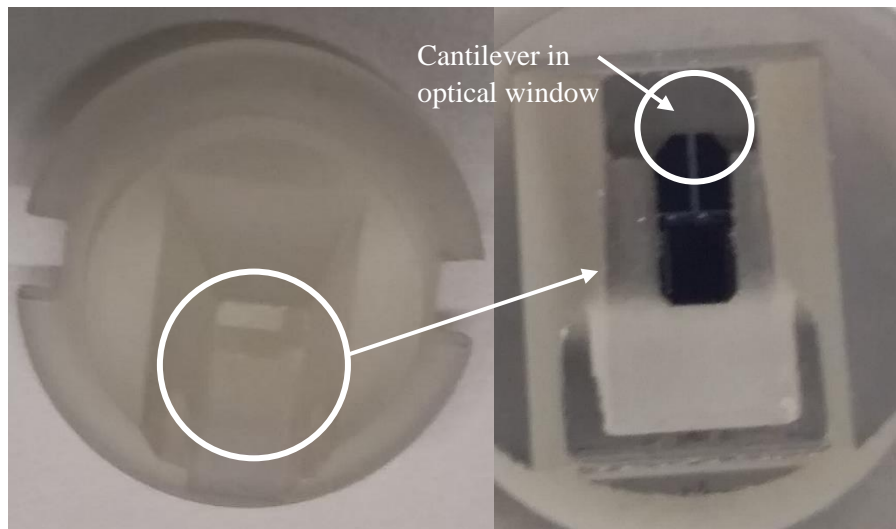

Figure 3: Silicon cantilever on glass cantilever holder, cantilever is placed within optical window.
-Step 2: Place cantilever on top of glass cantilever holder, ensuring cantilever is within optical window, Figure 3.